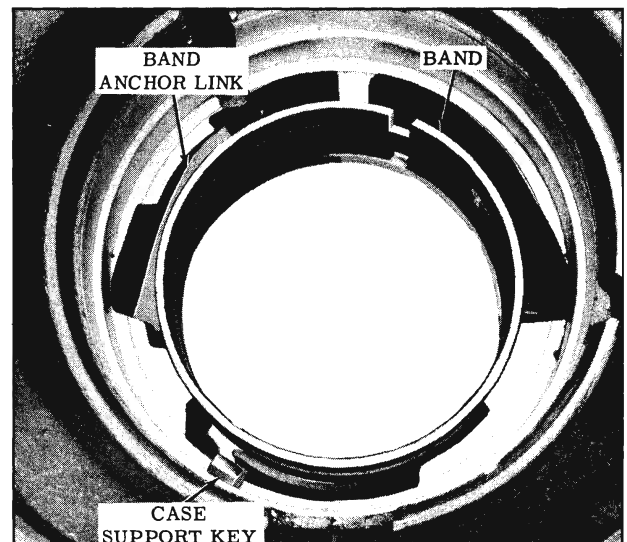

Fig. 3-290 Installing Band
2. Install band with a single ear facing servo side of case. (Fig. 3-290)